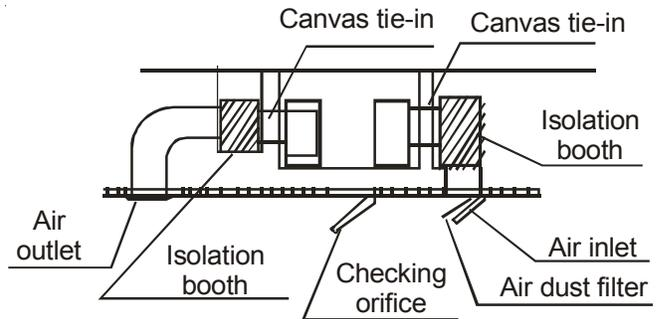

Figure 7
5. When installed in a noise-sensitive setting, install an isolation booth and internal duct underlayer to help muffle the duct noise. (Figure 7.)